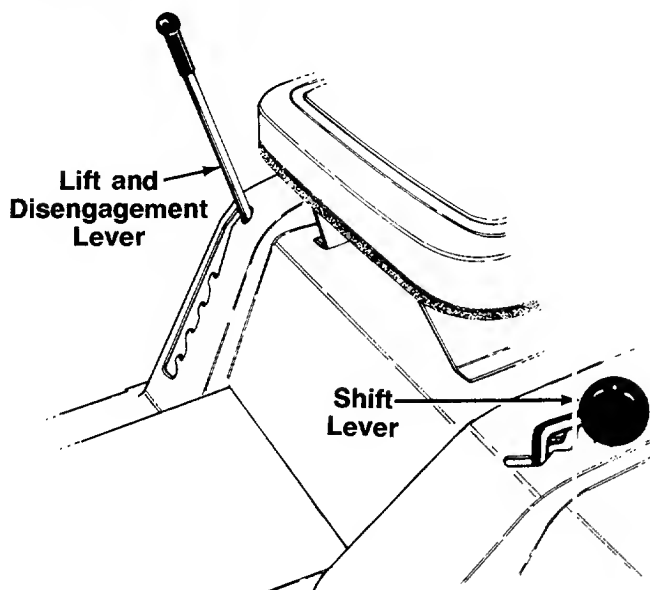

FIGURE 12.
The shift lever is located on the left fender and has three positions, FORWARD, NEUTRAL and REVERSE. See figure 12. The clutch-brake pedal must be depressed and the lawn tractor must not be moving when shifting gears. Do not force the shift lever. Release the clutch-brake pedal slightly to line up the shifting collar in the transmission. Then try to shift gears.
The lift and disengagement lever is used to raise and lower the cutting deck which determines the cutting height. Pulling it all the way back and locking it disengages the blades. The lift and disengagement lever **must** be in the disengaged position when starting the engine, when shifting into reverse or if the operator leaves the seat. See figure 12.
2. Place the lift and disengagement lever in the DISENGAGED position. See figure 12.